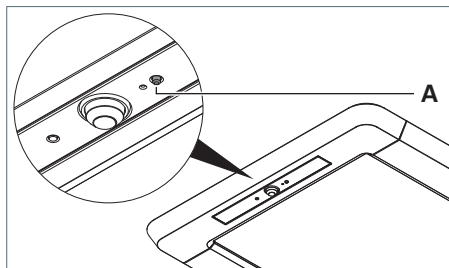
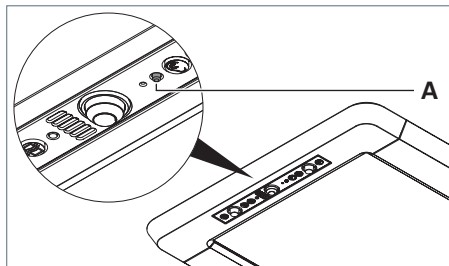

Fig. 24: Carrying out reset, version R.
Fig. 25: Carrying out reset, version RX.
- Press the key **A**, keep the key pressed and connect the luminaire to the power supply again, see Fig. 24 and see Fig. 25.